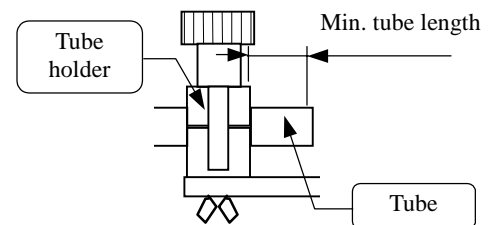

Figure 26. Minimum tube length
- Open the clamp and install the tube with union nut passing through it in the tube holder so that the minimum tube length as shown in Table 10 is ensured (see Figure 26)